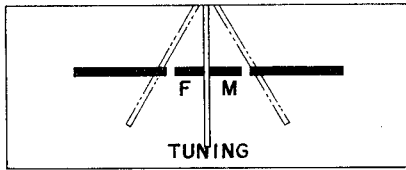
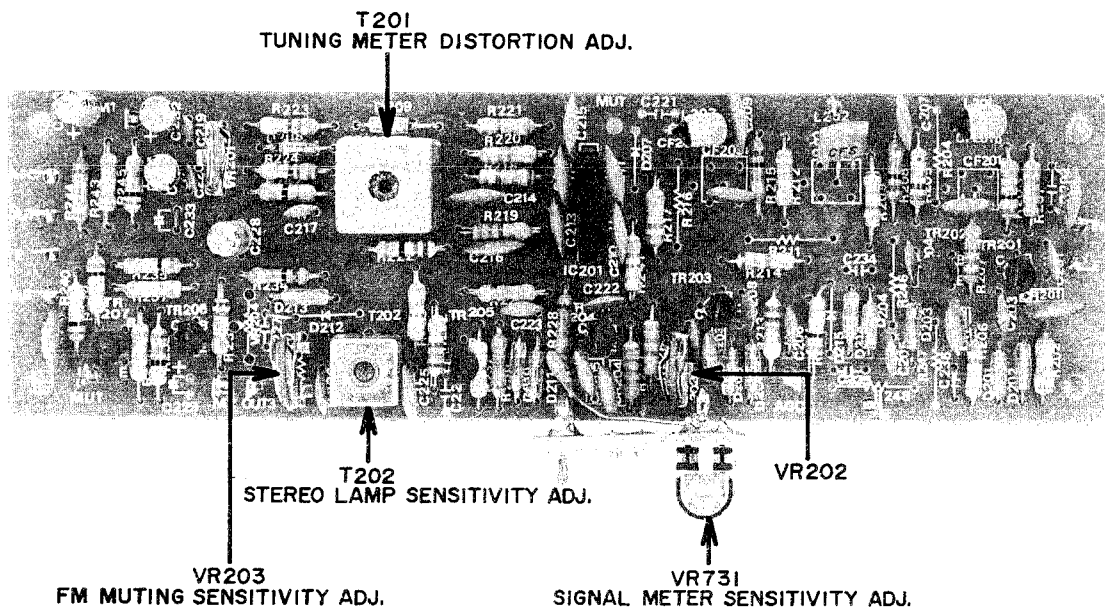
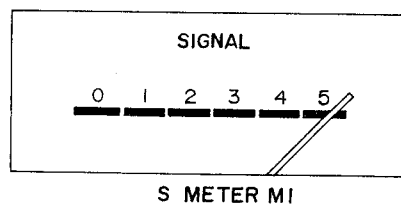
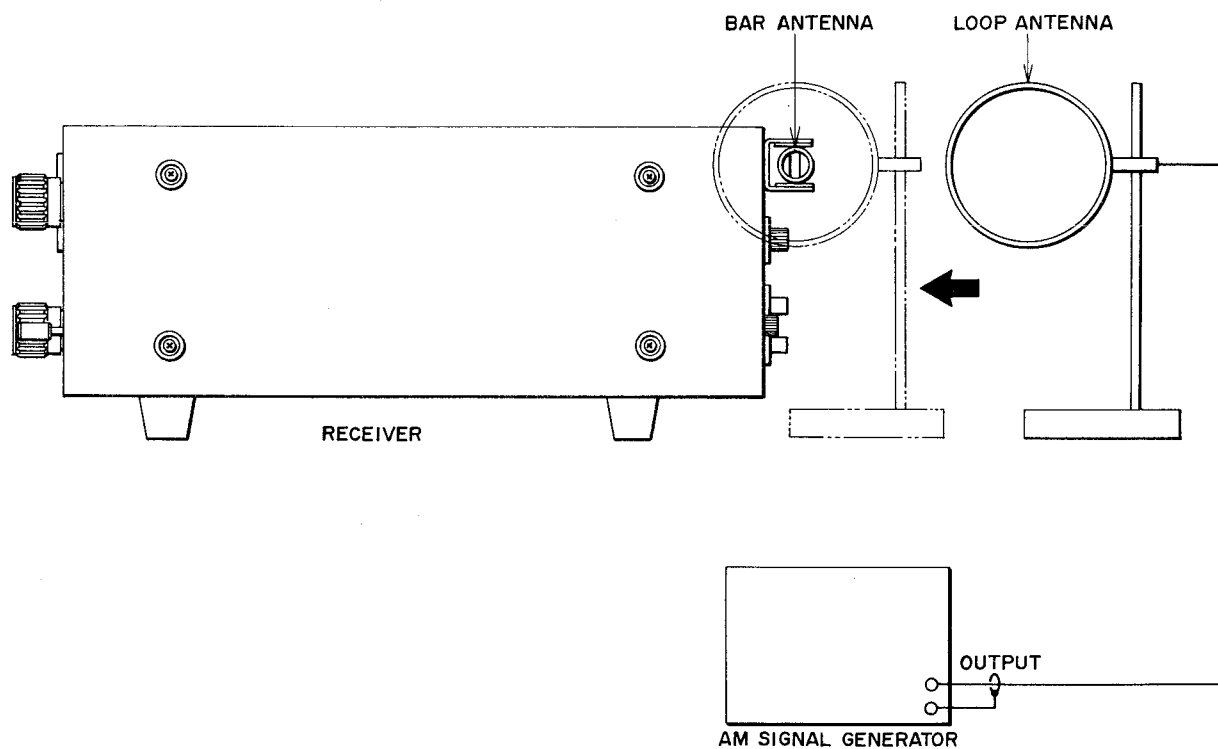

Fig. 14 TUNING METER M2
Fig. 15 FM IF AMP. P.C. BOARD 2014
Fig. 16
Fig. 27
After completing the adjustments outlined in parts 1, 2, and 3, set the FM signal generator attenuator to "0" (non-output condition), and adjust the upper core of FM IF Amp. P.C. Board coil T201 shown in Fig. 15 until the tuning indicator of tuning meter M2 comes to the center as shown in Fig. 14. Then set receiver dial to 98 MHz, supply a 98 MHz (400 Hz, 75% internal modulation) 66 dB signal from the FM signal generator, and fine-adjust the lower core of coil T201 for minimum distortion factor.
- 4) Under these conditions, adjust FM IF Amp. P.C. Board semi-fixed resistor VR-731 (20 kΩ) in Fig. 15 so that the indicator comes to the center of the extreme right hand block of the signal meter scale as shown in Fig. 16.
- 1) Connect the various measuring instruments as shown in Fig. 27.
- 4) Adjust AM IF Amp. P.C. Board semi-fixed resistor VR-401 (20 k Ω) shown in Fig. 22 so that when the loop antenna is brought close to the bar antenna (indicated by dotted lines) as shown in Fig. 27, the signal meter M1 indicator comes to the center of the extreme right hand block of the scale as shown in Fig. 16.
- 4) Adjust AM IF Amp. P.C. Board semi-fixed resistor VR-401 (20 k Ω) shown in Fig. 28 so that when the loop antenna is brought close to the bar antenna (indicated by dotted lines in Figure) as shown in Fig. 27, the signal meter M1 indicator comes to the center of the extreme right hand block of the scale as shown in Fig. 16.